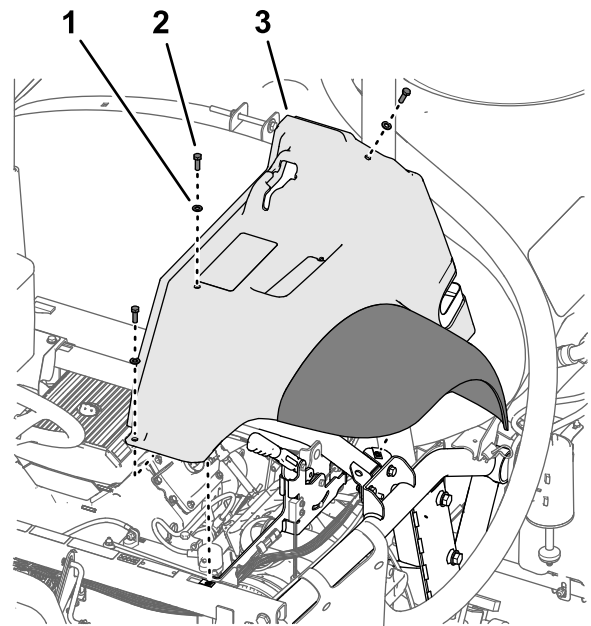

**Figure 218**
- Secure the inner-fender shroud to the frame tubes with the 6 push-in fasteners (Figure 218).